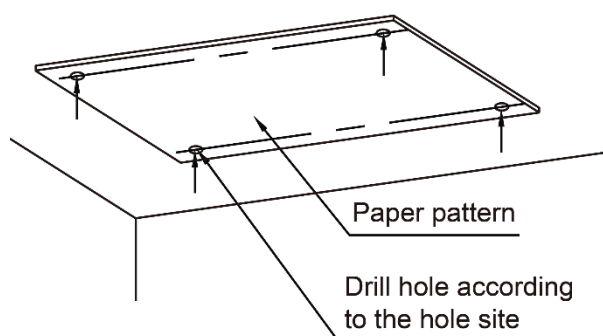
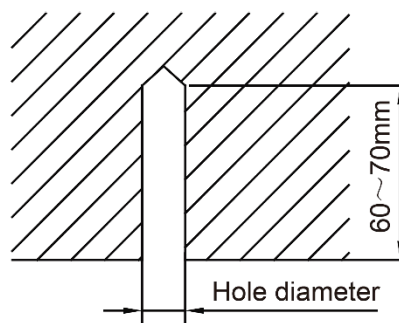

Fig 4.1.2
Fig 4.1.3
1) Stick the reference cardboard on the installation position; drill 4 holes according to the hole site on the cardboard as shown in fig 4.1.2; diameter of drilling hole is according to the diameter of expansion bolt and the depth is 2 3/8"-2 3/4", as shown in fig 4.1.3.